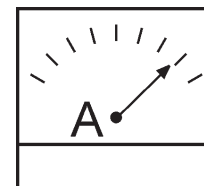

Figure 50. Ammeter (Load)
13. Observe the generator's ammeter (Figure 50) and verify it reads the anticipated amount of current with respect to the load. The ammeter will only display a current reading if a load is in use.